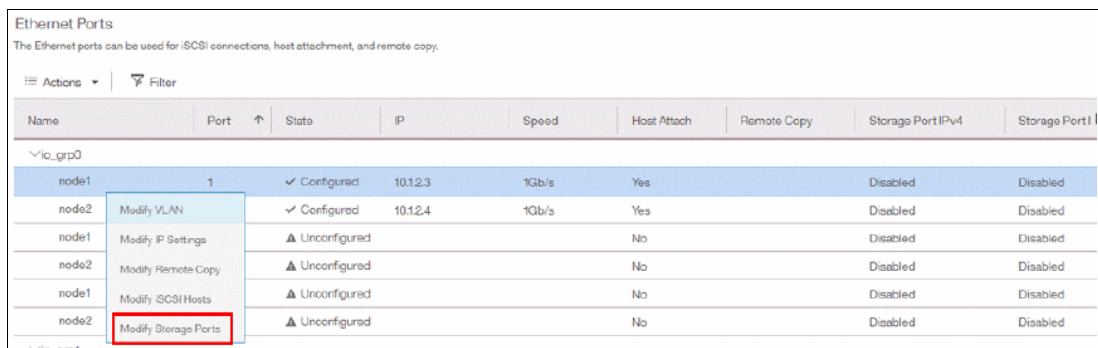

Figure 5-65 Modifying Ethernet port settings
2. To enable the port for external storage connections, select the port, click **Actions** and select **Modify Storage Ports**, as shown in Figure 5-65.